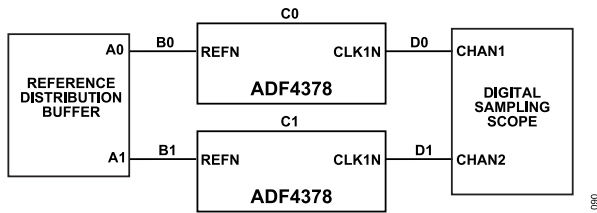
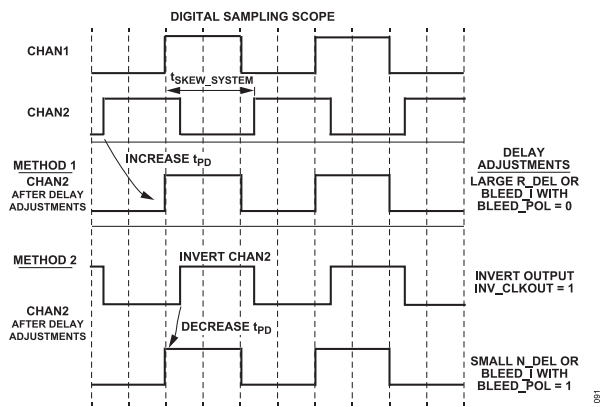

Figure 99. Total System Skew
Figure 100. Skew Adjustment Methods
Due to the controlled t_{PD} of the ADF4378 devices, it is reasonable to expect that a significant portion of the total system skew (t_{SKEW_SYSTEM}) is due to propagation delay mismatches in traces or cables (t_{SKEW_B} , t_{SKEW_D}), and skew in other components (t_{SKEW_A}) or instruments (t_{MEAS_ERROR}). Figure 99 and Equation 24 provide several sources of possible output skew error in a typical system. The Clock Skew in Large Multi-GHz Clock Trees article outlines the skew trade-offs in component selection, board design, and end-user cost requirements in large clock trees.
Figure 45 and Figure 43 show a general trend that an increasing magnitude of R_DEL, N_DEL, or BLEED_I bit fields, Bits[9:0] causes a small increase in L_{NORM} and $L_{1/f}$. Increases in L_{NORM} and $L_{1/f}$ result in clock jitter (see Figure 12 and Figure 15). Therefore, in the most performance sensitive applications, identifying ways to minimize the magnitude of the R_DEL, N_DEL, or BLEED_I bit fields, Bits[9:0] values is required. As an example, Figure 100 provides two skew adjustment methods to minimize the skew in Figure 99. Method 1 only adjusts one of the reference to output delay adjustments provided in Table 39. Method 1 results in an R_DEL, N_DEL, or BLEED_I bit fields, Bits[9:0] maximum adjustment equal to half an output cycle, or $1/(2 \times f_{OUT})$. Method 2 minimizes the magnitude of R_DEL, N_DEL, or BLEED_I bit fields, Bits[9:0] by utilizing the output invert along with either R_DEL, N_DEL, or BLEED_I bit fields, Bits[9:0] adjustments. When compared to Method 1, Method 2 results in a lower R_DEL, N_DEL, or BLEED_I bit fields, Bits[9:0] maximum adjustment of a quarter cycle output cycle, or $1/(4 \times f_{OUT})$. Method 2 is further described in Table 41.
5. Program skew adjustments per Method 2 for other ADF4378, as shown in Figure 100.